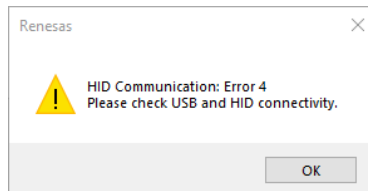

Figure 26. HID Communication Error Example
- The GUI can report various HID USB communication errors using a message box (see Figure 26). The message box will report an error code number. Check all physical connections, restart the IC, and exit/re-open GUI.